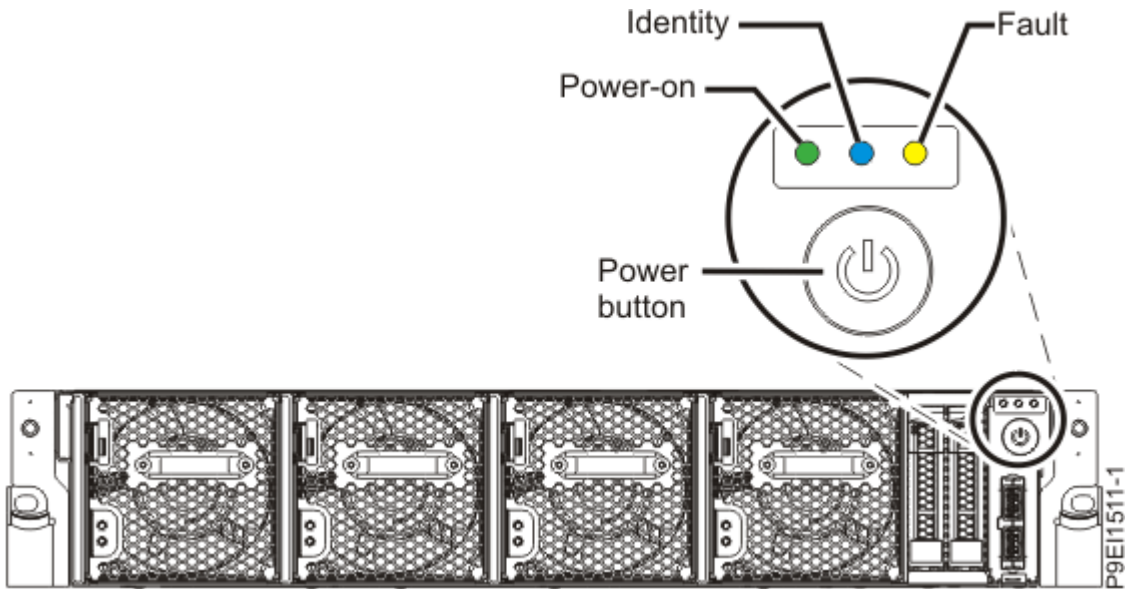

Figure 24. Power button
- The power-on LED as shown in Figure 24 on page 36, is flashing. A flashing light indicates standby power to the unit.
3. Press the power button that is shown in Figure 24 on page 36.